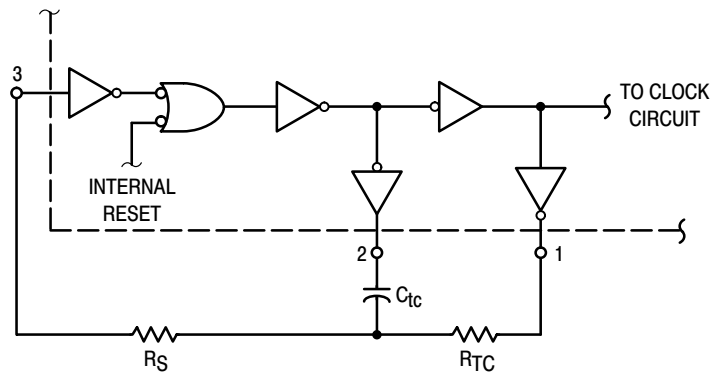

Figure 3. Oscillator Circuit Using RC Configuration
6. When using the on chip oscillator the total supply current (in μAdc) becomes: $I_T = I_D + 2 C_{tc} V_{DD} f \times 10^{-3}$ where I_D is in μA, C_{tc} is in pF, V_{DD} in Volts DC, and f in kHz. (see Fig. 3) Dissipation during power-on with automatic reset enabled is typically 50 μA @ V_{DD} = 10 Vdc.
The RC oscillator as shown in Figure 3 will oscillate with a frequency determined by the external RC network i.e.,